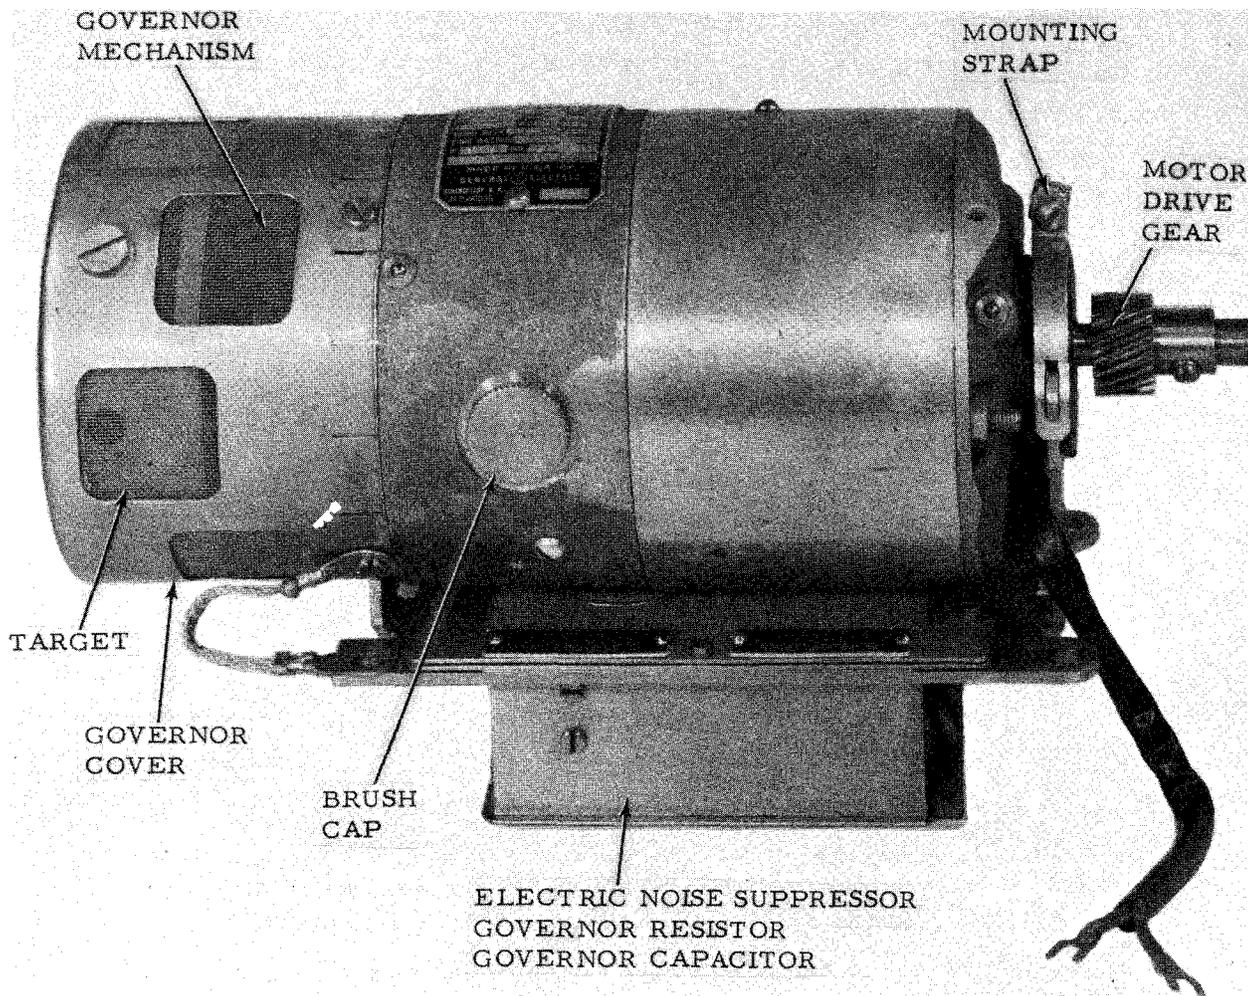

Figure 1-20. Typical Series (Governed) Motor Unit
(2) The series governed type motor units (figure 1-20) in standard and heavy-duty horsepower ratings and may be operated from regulated or unregulated